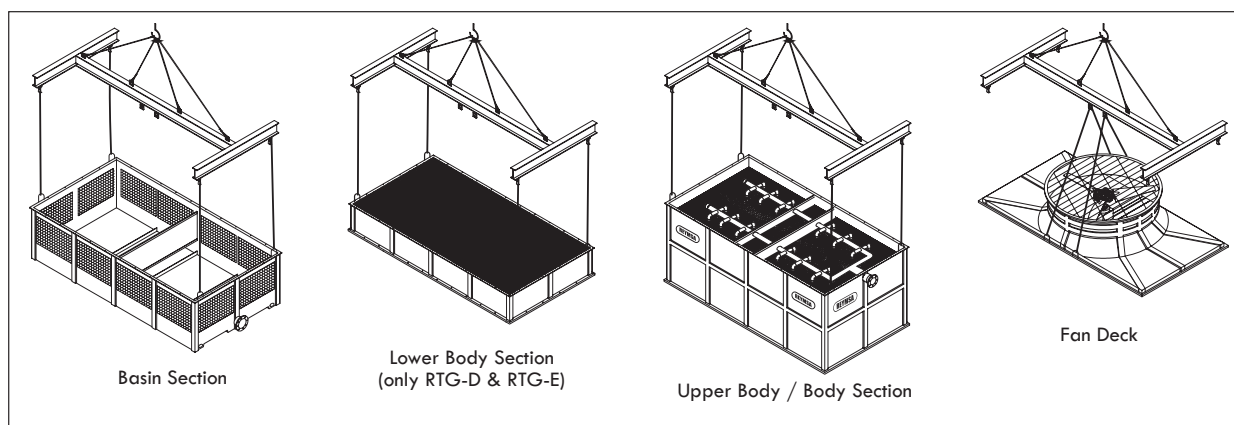

Figure A-46: Crane lifting for an RTG model.
- B. After assuring the equipment is received in proper condition, proceed to unload it from the transportation vehicle, piece by piece, with a crane (using a spreader bar) or forklift of the appropriate capacity, see Figure A-46 for an example.
- C. For crane lifting, it's recommended to use a minimum lifting angle of 60° between the strap and the horizontal. Each section of the Tower has U-bolts for lifting. Place the straps through the U-bolts (as shown in Figure A-46) and use a spreader bar to avoid damage on the upper edge of the Tower. Don't balance until tensing the straps.